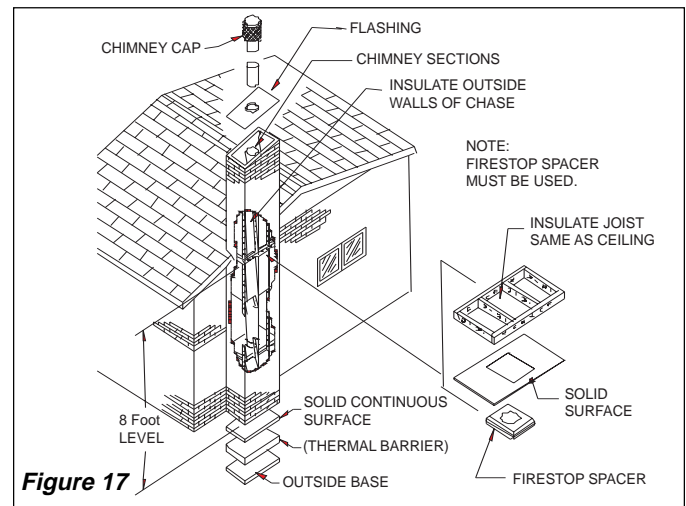

Figure 17
3. Insulate the walls of the chase, both the outer and interior partitioning wall (see Figure 17).